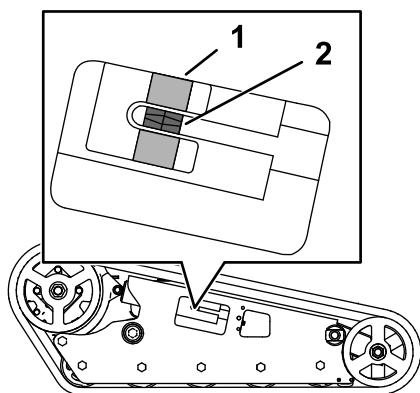

Figure 58
Verify that the tension block is aligned with the green guide on the decal or that the block is 1.3 cm (1/2 inch) away from the rear of the tension tube slot (Figure 58).
- Using a 1/2 inch drive ratchet, turn the tensioning screw until the tension block aligns with the green guide on the decal or is 1.3 cm (1/2 inch) away from the rear of the tension tube slot (Figure 58).
- Verify that the tension block aligns with the green guide of the decal or is 1.3 cm (1/2 inch) away from the rear of the tension tube for both tracks (Figure 58). Adjust if necessary.